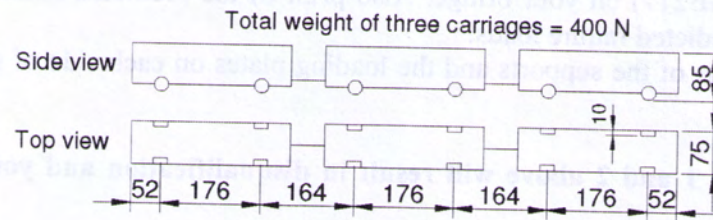

Figure 3: Train
- 5: The deck for the train must be horizontal, be at least 100 mm wide and permit unhindered passage of the train (this includes changes of the number of layers of material which cause a step for the train to climb over). The dimensions of the train are shown in Figure 3.